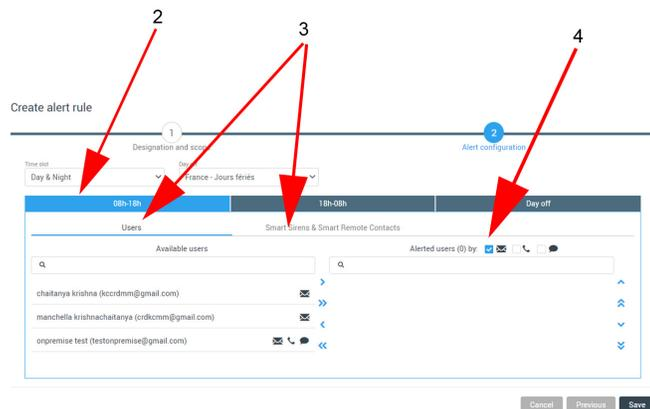

Figure 139. Assigning users to time periods in an alert rule (Step 2)
Add or remove users in the **Users** tab (3) of the screen as shown in **Figure 138** and **Figure 139**:
- Determine how users will be alerted (4): via e-mail (✉) automated voice call (☎) or SMS / Text message (💬). Click the check box → to assign one or more alert types.